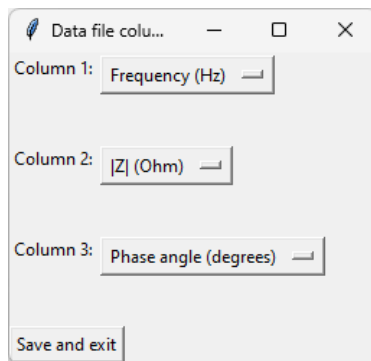

Figure 39: Modifying the data file layout specification.
3. Click `File>Specify data file layout...` and select the settings indicated in Figure 39. Then, click `Save` and exit.